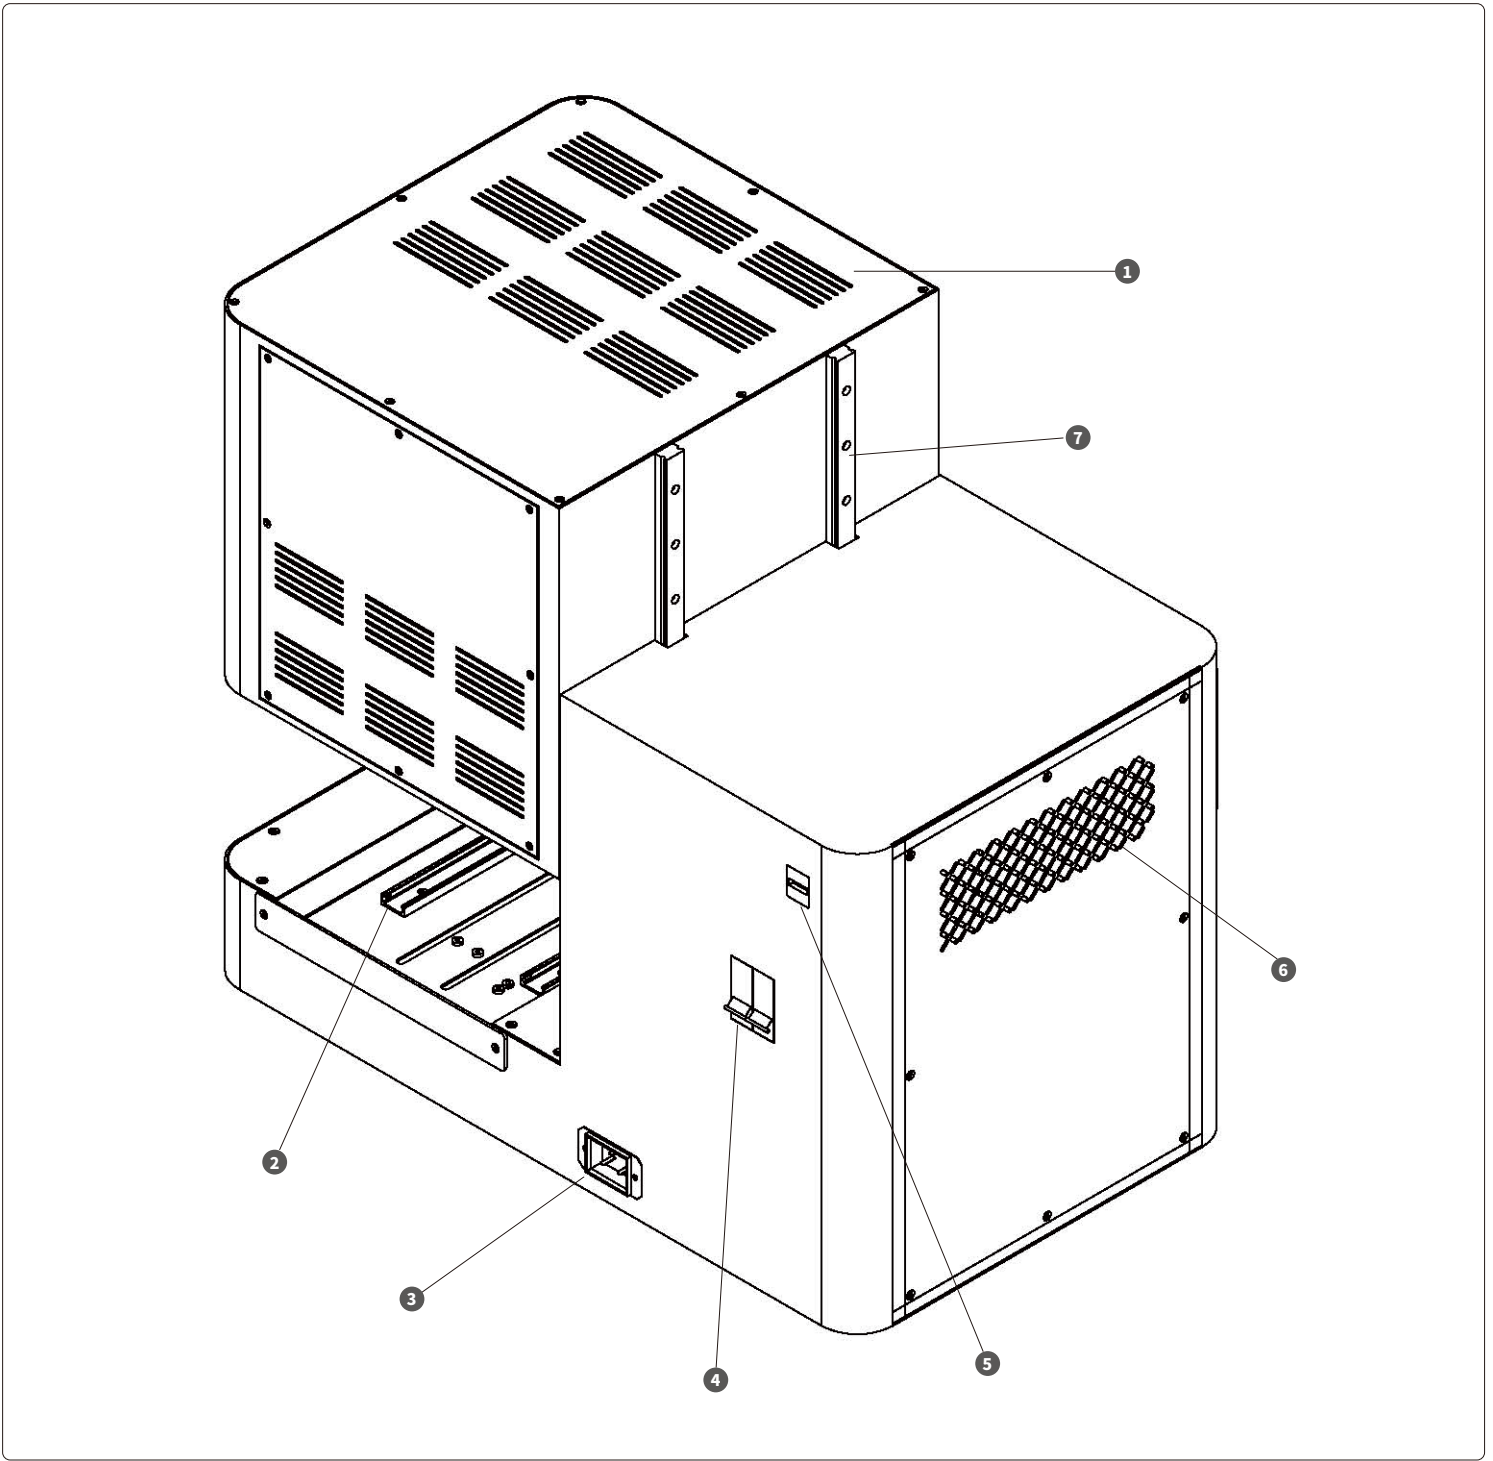

Fig.2 Machine overview, Back
- ① System Settings
- ② Temperature Settings
- ③ Language Settings
- ④ Device Info
- ⑤ Record Query
To upgrade the system, first download the upgrade program and save it to the root directory of a USB flash drive. Insert the USB drive into the port shown in Figure 2 ⑤. Then, in the System Settings interface, tap "Update MCU". Wait for the upgrade to complete, and then restart the system.